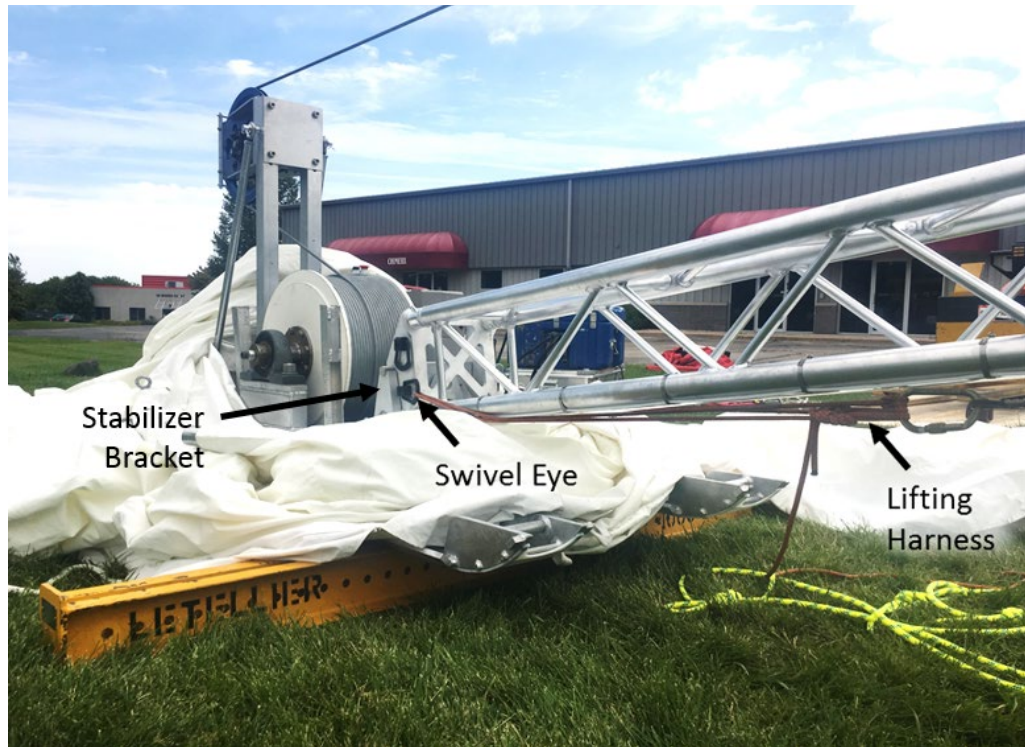

Figure 9: Tent Staging.
10.1.2 Stage tent around base (Figure 9).
- 10.1.5 Install two temporary, triangular Stabilizer Brackets at tower base (Figure 9).